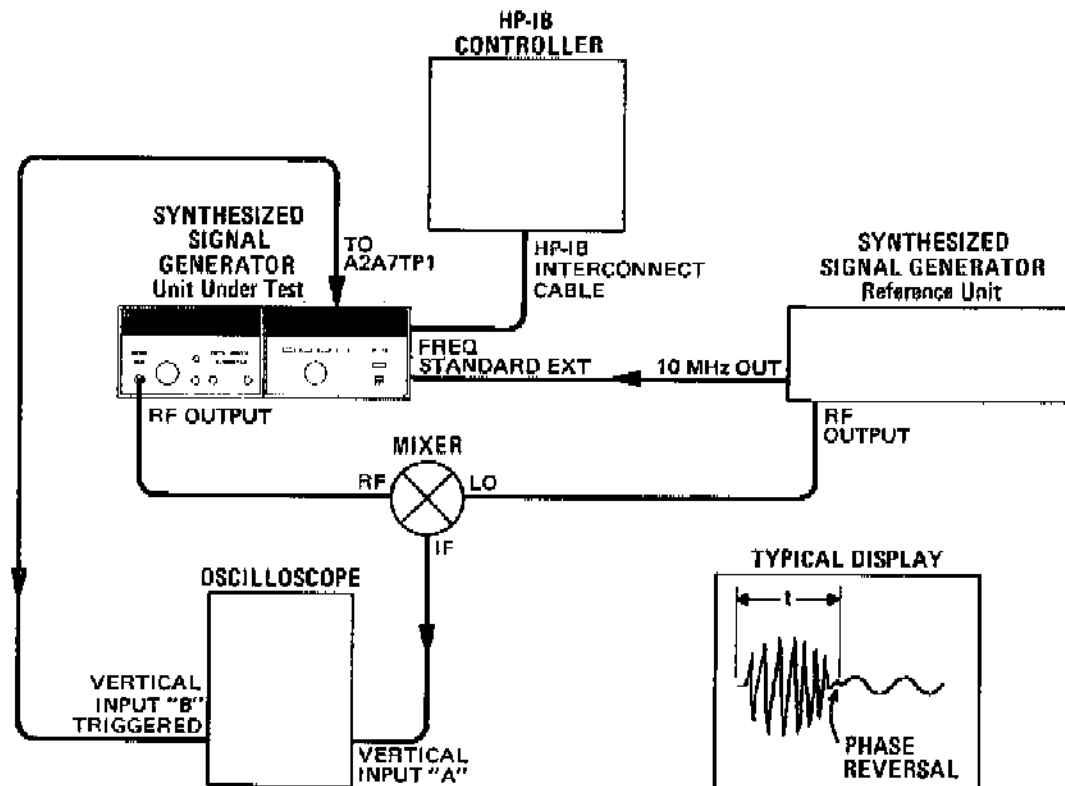

Figure 4-13. Frequency Switching Time Test Setup
11. Connect the remaining equipment as shown in Figure 4-13.
14. Measure the switching time by observing the signal on the oscilloscope display. (The Frequency Execute program code triggers the oscilloscope's horizontal sweep. Therefore, the timing begins at the display's left graticule. The timing ends at the last phase reversal as the IF signal settles into a steady frequency. Refer to Figure 4-13. This should occur in less than 15 ms. Record the switching time.